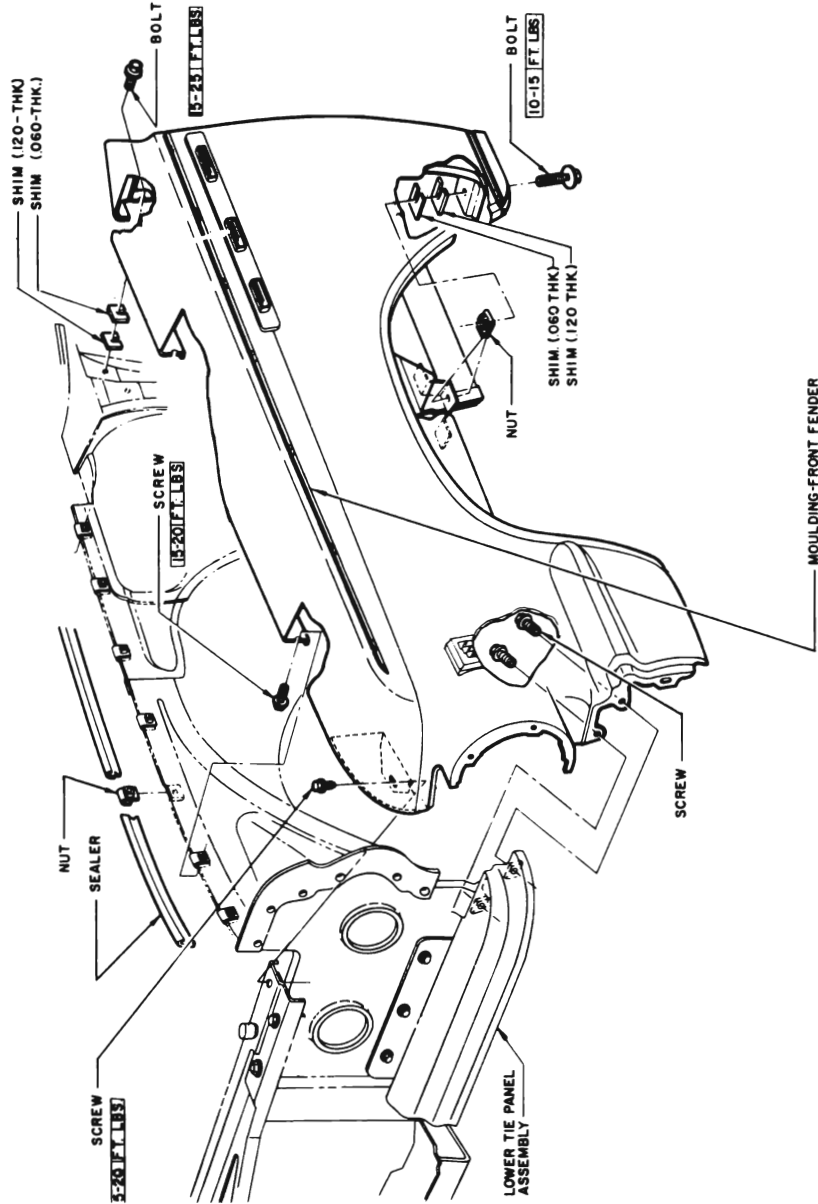

Figure 12-2—Front Fender Alignment
- b. Loosen four bolts attaching latch to panel assembly. (See Figure 12-2.)
Before making any adjustment of sheet metal to provide necessary clearance at points mentioned, first make sure that front doors are properly aligned in the body openings. If fender and door panel surfaces are not reasonably flush, correction may be made by adding or removing shims between the fender and the cowl. See Figure 12-2. Where spacing between rear edge of front fender and door is objectionably uneven from top to bottom, it may be necessary to loosen fender attaching bolts and pry between
Up and down adjustment of the lower rear edge of the front fender is accomplished by shimming at the fender to body attaching point shown in Figure 12-2. The fender line should be flush with the rocker panel.